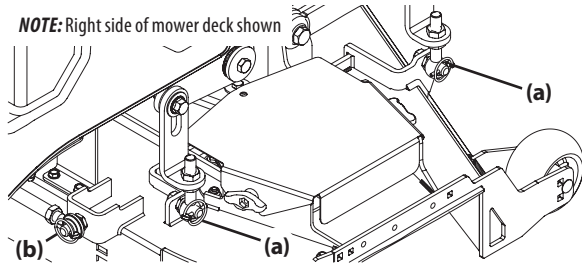

Figure 31
4. Remove the four lynch pins (a) that secure the deck to the deck lift assembly. See Figure 31.
5. Remove the lynch pin (b) securing the rear stabilizer bar to the rear, right side of the deck. See Figure 31.